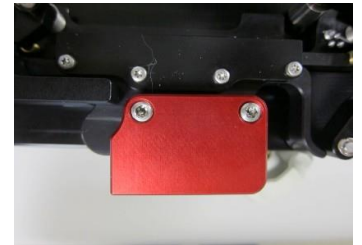

Fig 2. Installed shipping lock from top showing 2 set screws
6. Tighten the 4 set screws in the shipping lock with the 3 mm hex wrench until they are just touching the plate carrier, then tighten a further quarter turn (top 2 screws, Fig 2) and deck surface (bottom 2 screws, Fig 3). Do NOT overtighten. Set screw head to be approximately even with shipping lock surface.